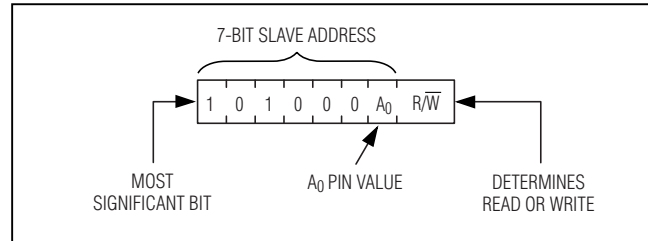

Figure 10. DS3988's Slave Address Byte
**Slave Address Byte:** Each slave on the I2C bus responds to a slave addressing byte sent immediately following a start condition. The slave address byte (Figure 10) contains the slave address in the most significant seven bits and the R/W bit in the least significant bit.